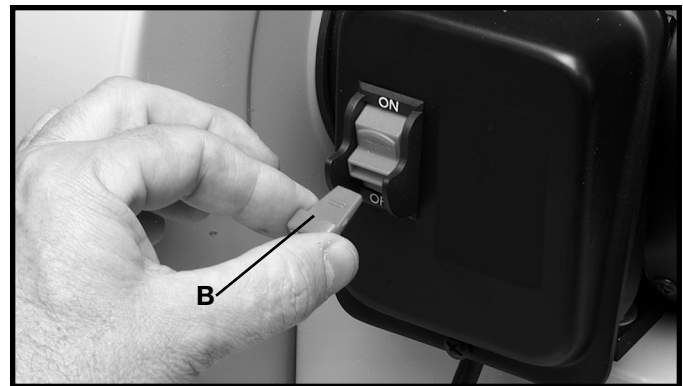

Fig. 25
IMPORTANT: When the machine is not in use, the switch should be locked in the **“OFF”** position to prevent unauthorized use. To lock the machine, grasp the switch toggle (B) Fig. 25, and pulling it out of the switch as shown. With the switch toggle (B) removed, the switch will not operate. However, should the switch toggle be removed while the machine is running, it can be turned **“OFF”** once, but cannot be restarted without re-inserting the switch toggle (B).